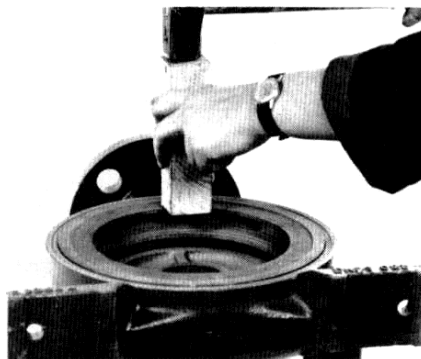

Fig. 75 - Inserting the diffuser in the discharge casing
7. Mount discharge casing (107) with inserted final stage diffuser (171.2) and O-ring (412.2) (see Fig. 75).